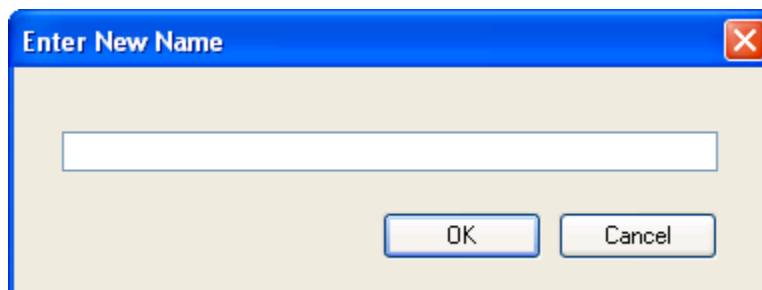

Figure 70 - Enter New Name Window
3. The **Enter New Name** window (Figure 70) appears.